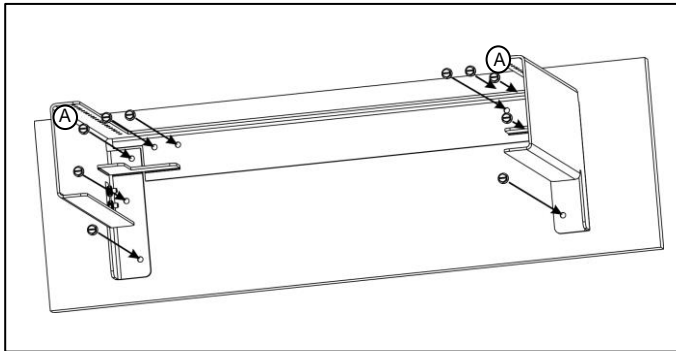
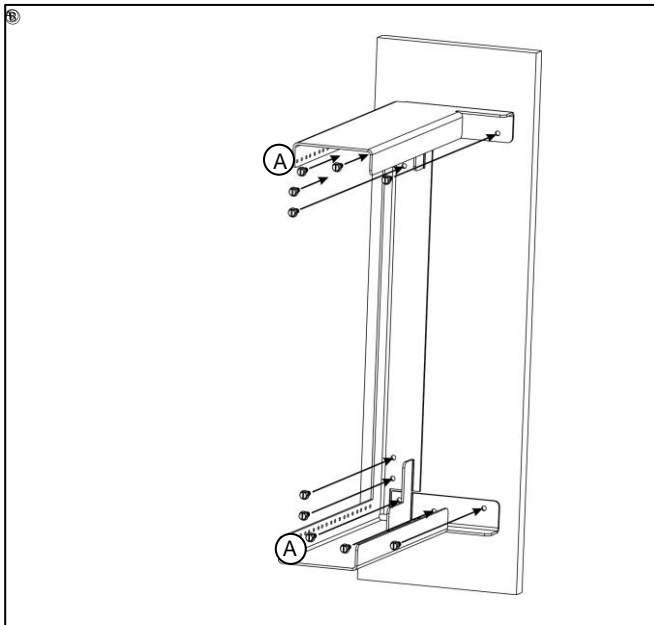

Figure 2. Horizontal mounting on backboard
Figure 3. Vertical mounting on backboard
- ① Select an appropriate location to install the WMB-7U ensuring adequate area for the equipment to be placed on the rack. Mounting to a 3/4" thick backboard with the included hardware ensures that the combined weight of the WMB-7U and equipment can be supported.
- ② Determine the desired orientation. Use the appropriate figure, Figure 2 or Figure 3 for the remaining installation steps.
- ③ Using the WMB-7U as a template, mark the two locations identified as (A) in Figures 2 or 3. These locations are 18" apart and in-line. Drill two 9/64" pilot holes.
- ④ Hold the back of the bracket firmly against the mounting surface mating the pilot holes with the locations marked as (A) in Figure 2 or 3. Install two of the included 1" wood screws.
- ⑤ Drill eight additional 9/64" pilot holes at the other mounting locations shown in Figure 2 or 3 and install the remaining eight 1" wood screws.